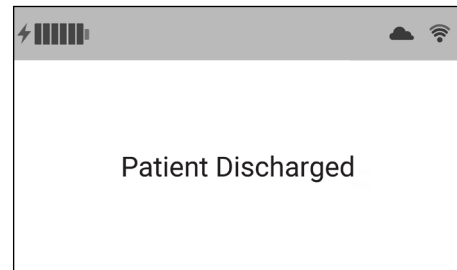

Figure 13. Patient discharge screen
3. A Patient Discharged screen will appear for several seconds. (Fig. 13)
4. The controller will turn off following patient discharge, three (3) minutes after both the support surface is disconnected and the controller is unplugged from power.